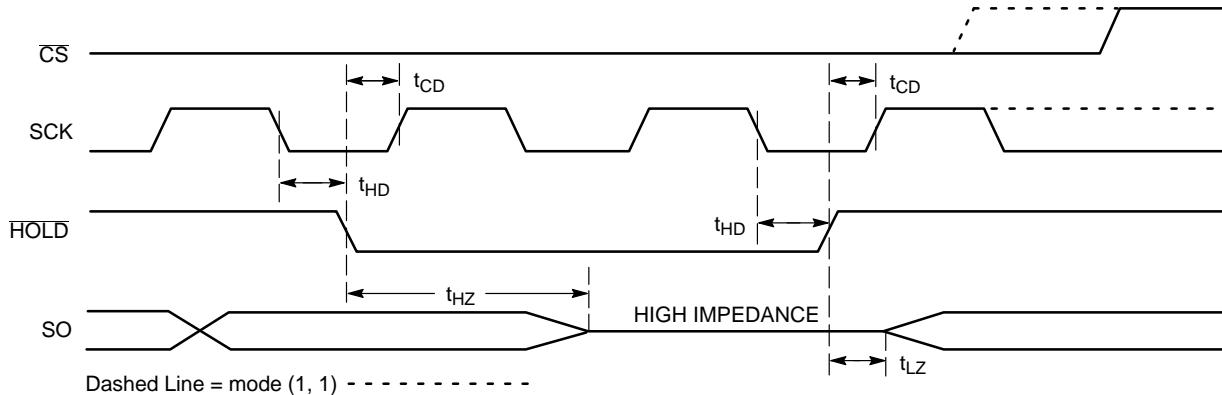

Figure 10. HOLD Timing
The HOLD input can be used to pause communication between host and NV25xxx. To pause, HOLD must be taken low while SCK is low (Figure 10). During the hold condition the device must remain selected (CS low). During the pause, the data output pin (SO) is tri–stated (high impedance) and SI transitions are ignored. To resume communication, HOLD must be taken high while SCK is low.